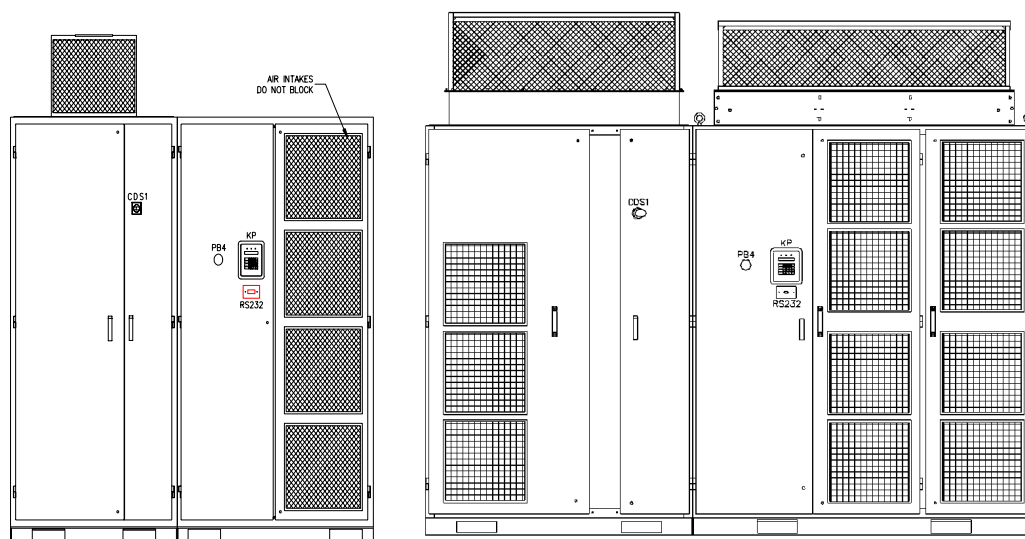

Figure 1-4. Typical 4,160V (Left) and 6,600V (Right) GEN III Perfect Harmony VFDs
- GEN III style (shown in **Figure 1-4**)